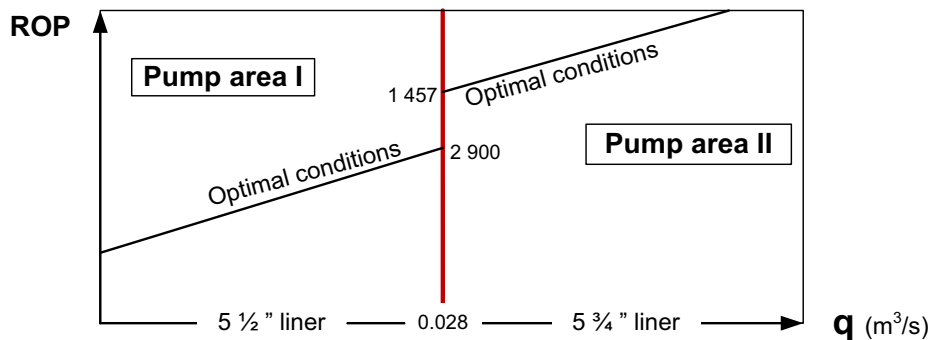
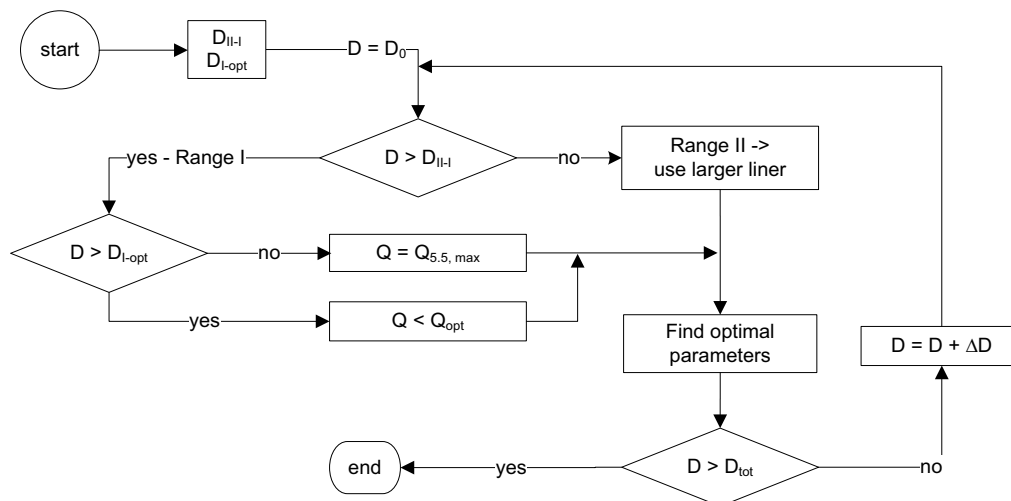

Figure 4-7.1: Boundary area between pump area II and I.
Figure 4-7.2: Flow chart of estimating hydraulic parameters while in the boundary zone between the two pump areas.
- a) Find first which working area prevails in the boundary zone between pump are II and I, which are valid as indicated in Figure 4-7.1. Area II ends with the 5.75” liner when $q_{max, 5.5}$ is reached:
- b) In Figure 4-7.1 we see the division between the two pump areas. A preliminary solution of how to distinguish between them is given in Figure 4-7.2, its upper part.